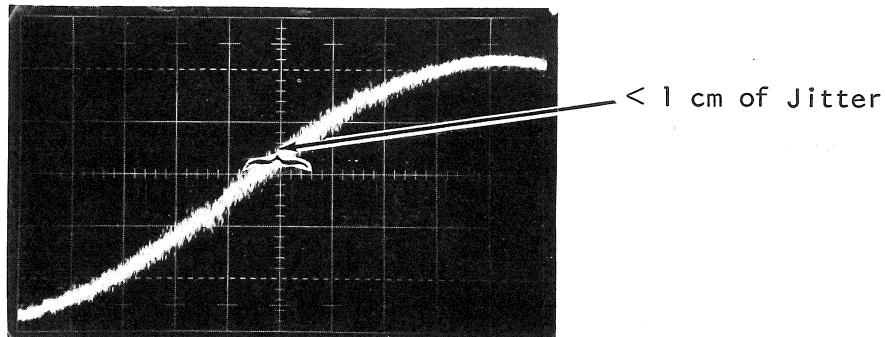

Figure 5-41
6. Measure the trace width of the display (see figure 5-41). There must be less than 1 cm of jitter.